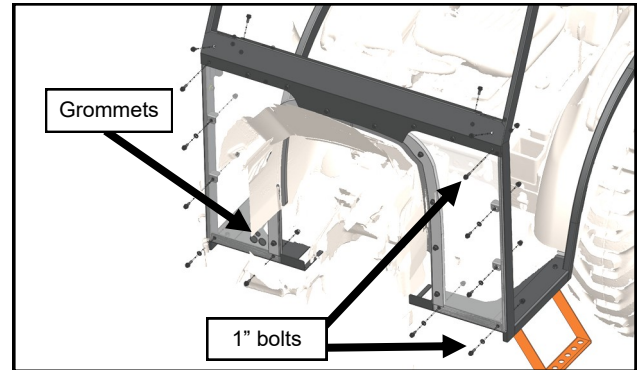

Fig. 5.1 (Cowl)
- 5.1** Install the provided small rubber grommet into the lowest hole in the right side of the cowl. Install the 2 larger grommets in the remaining 2 holes. With assistance, slide the cowl over the top of the hood and engine side covers using **CAUTION** not to scratch the plastic components. Secure the cowl to the side frames with hardware listed below. Use 1 inch long bolts at the corners of the cowl and plastic washers under the heads of any bolts in contact with the plastic parts of the cowl. See Figure 5.1.